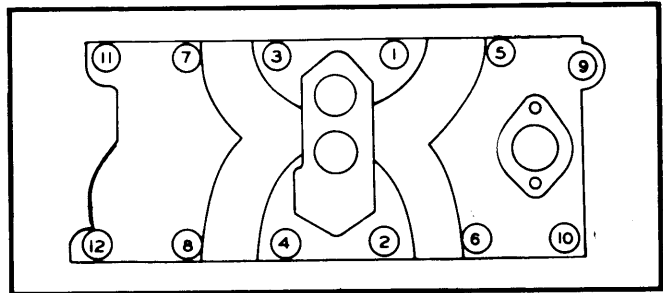

Fig. 1 Engine Intake Manifold Tightening Sequence
3) Lower intake manifold carefully into position and install bolts. Tighten bolts in proper sequence shown in Fig. 1 using 2 steps to obtain specification given in Tightening Specifications Chart.